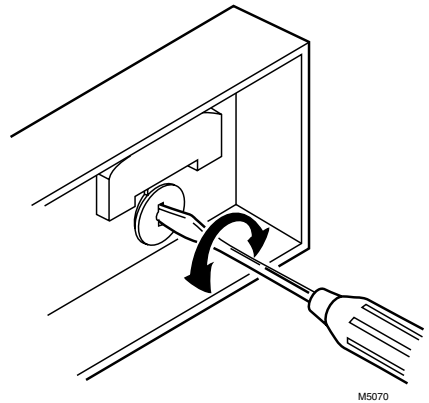

Fig. 9. Thermometer calibration.
- 5 If the readings are different, insert a small screwdriver in the thermometer slot and turn it until the thermometers have the same reading. See Fig. 9.